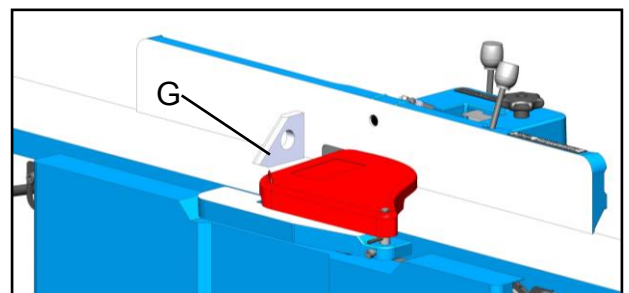

Fig. 21
5. Place an angle measuring device (G) Fig.21 on the table closed to fence surface and pulling up the fence handle (F) to confirm a 90° setting then tightening the lock handle (C).
6. Loosen the hex nut (E) until the stop bolt (A) touch stop block (B) surface.
7. Tighten the hex nut (E) to retain the setting.